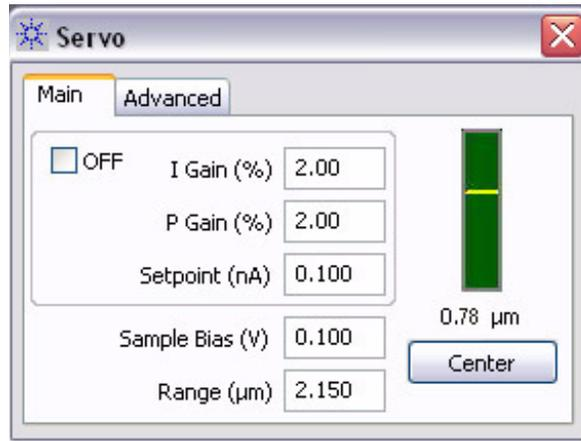

Figure 82 Servo window settings for STM imaging
- 9 In the **Servo** window enter the **Bias Voltage** (Figure 82). Typical values are 50-200 millivolts. A positive bias indicates current flow *from* the tip *to* the sample, and vice versa for negative bias.